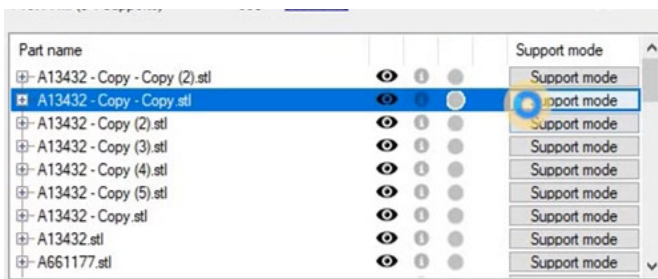
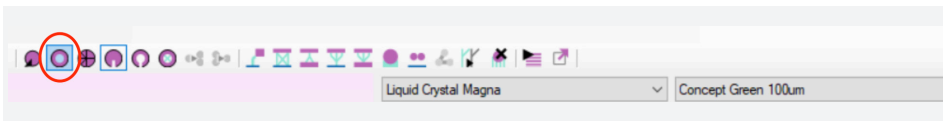
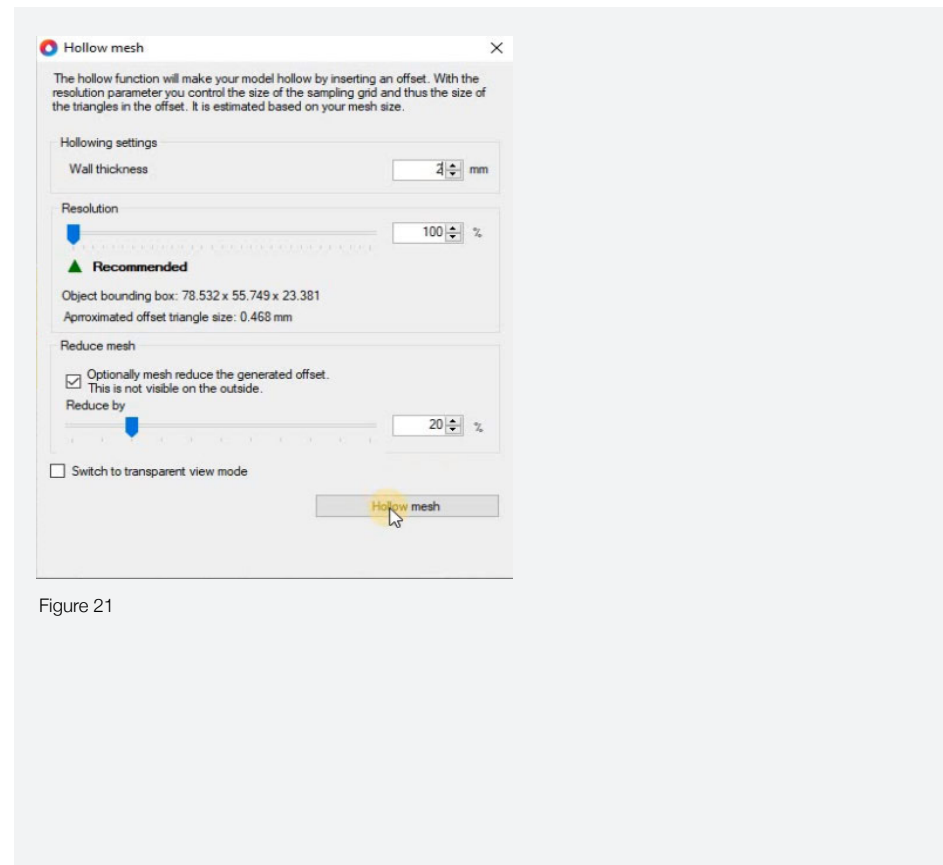

Figure 19
Figure 20
Figure 21
- If you wish to reduce resin usage and hollow your models you can do this by clicking on the model (it will highlight yellow) and click 'Support Mode' (figure 19) on the right hand tool bar. Select 'Mesh' and 'Hollow Mesh' or select the 'Hollow Mesh' icon (figure 20) and choose '2mm' wall thickness, leaving the rest of the parameters as in the default, then click 'Hollow Mesh' (figure 21).